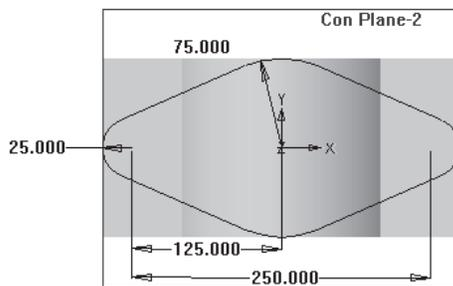

Figure 3-80 Sketch for the cut feature
3. Using the recently drawn plane as the sketch plane, draw the sketch for the cut feature and apply the required relations and dimensions to the sketch, as shown in Figure 3-80.